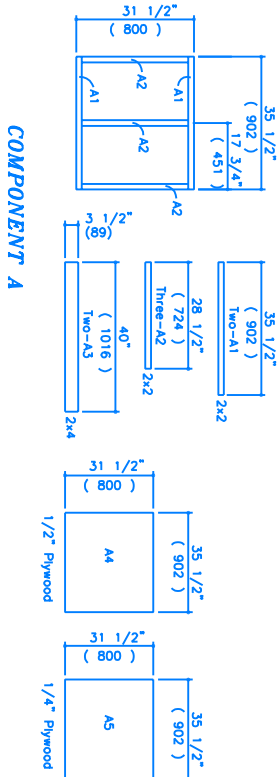

FIGURE 3
- 2) Component A. Layout pieces A2 between pieces A1. (Fig. 3). Nail through pieces A1 into the ends of pieces A2 using 2 1/2" common nails. Place piece A5 on this assembly and nail to pieces A1 and A2 using 1 1/2" common nails. Place pieces A3 under the assembly, one under each piece A1 with a 2" overhang all around pieces A1. (Fig. 11). Nail through pieces A1 and A5 into pieces A3 using 2 1/2" common nails. Place insulation. Place piece A4 on this assembly and nail to pieces A1 and A2 using 1 1/2" common nails.